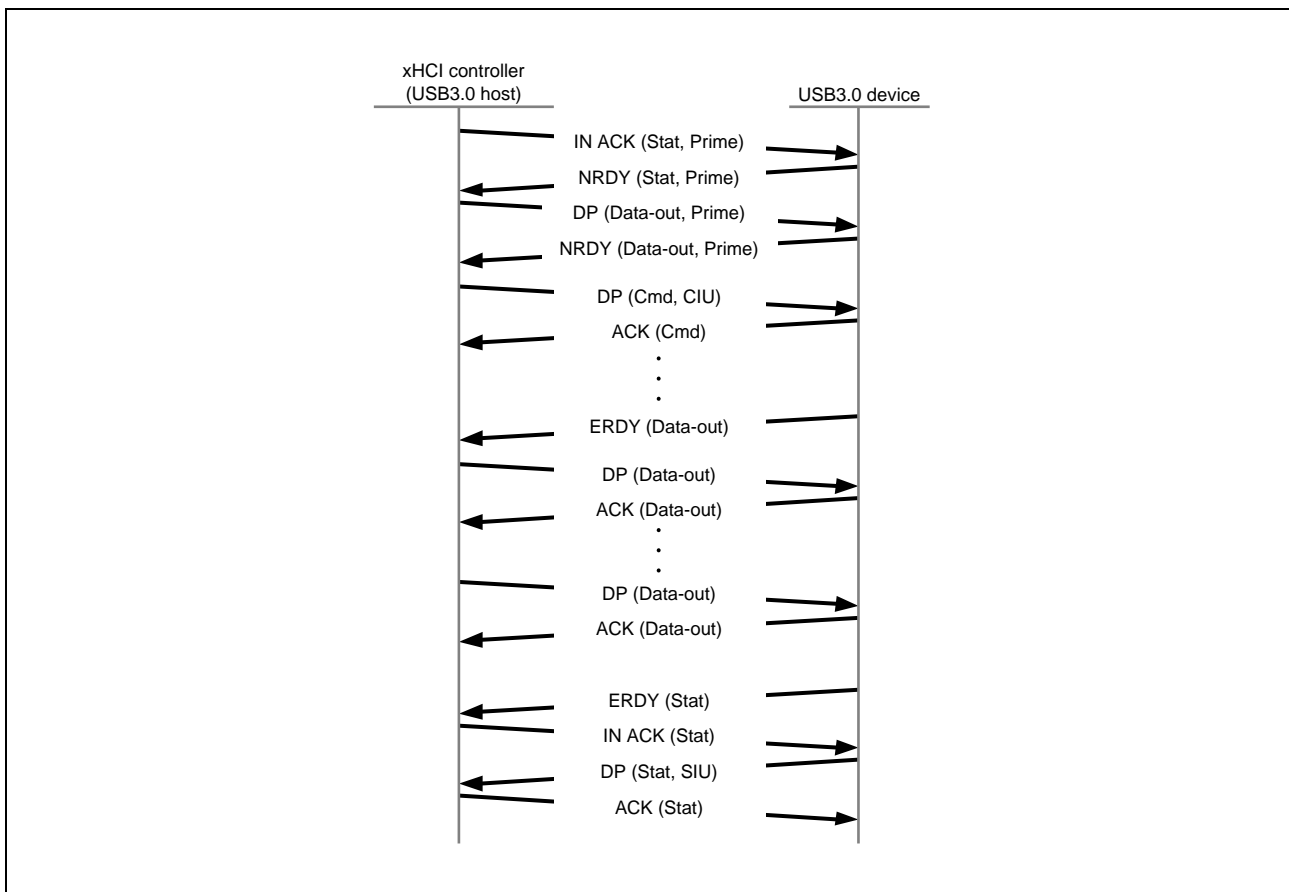

Figure 26.6-36 Example SuperSpeed UASP Data-OUT Transfer
**Figure 26.6-36** shows the part between USB3.1 host and USB3.1 device of Figure 8 in UASP specification Rev.1.0.